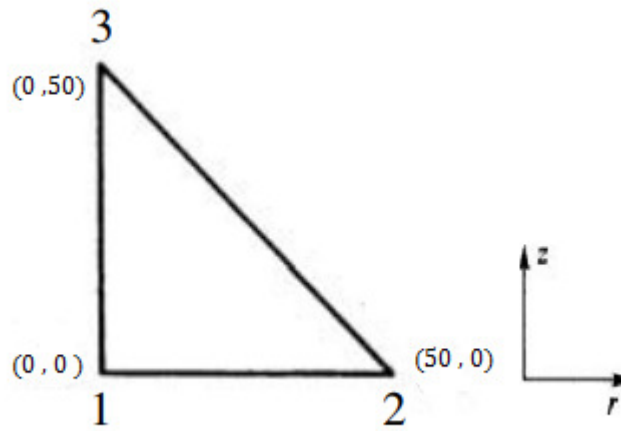

Figure. 2
b) For the axisymmetric element shown in Figure.2 ,determine the strain displacement matrix and stress-strain matrix /constitutive matrix. Take $E=200$ GPa and $\nu = 0.3$. The coordinates shown in figure are in mm. 8M